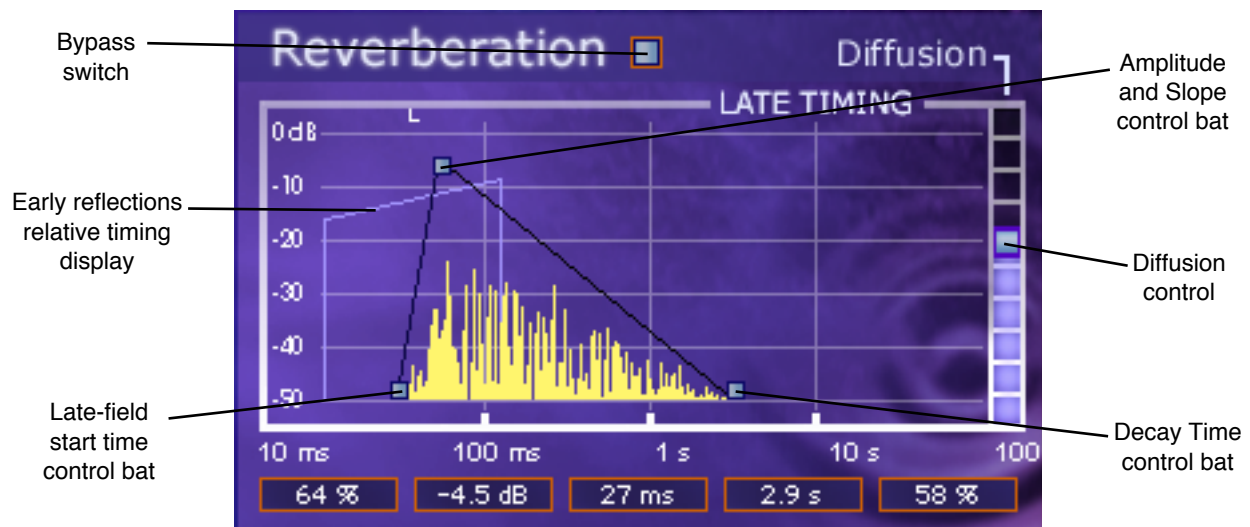

Figure 75. DreamVerb Reverberation panel
The parameters in the Materials panel, in conjunction with the Shape panel (Figure 72 on page 151) and Reverberation panel (Figure 75 on page 157) effect the spatial characteristics of the reverb.
Note: While materials are used to control decay rates as a function of frequency, the overall decay rate of the late-field reverberation is controlled from the Reverberation panel (see Figure 75 on page 157).
The Reverberation panel (Figure 75) contains the parameters that control the late-field (LF) reverb tail for DreamVerb.